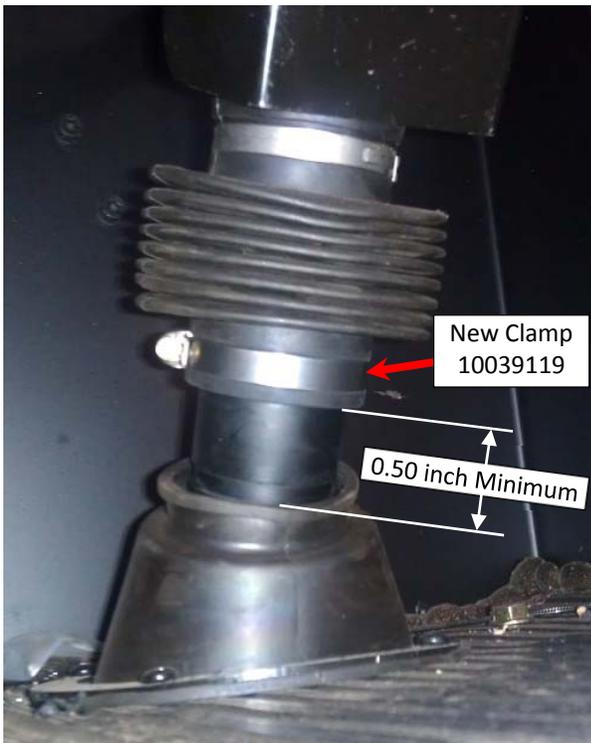

Fig. 8
3. Open new worm gear clamp until it releases then secure it around bellows. (Fig. 8)